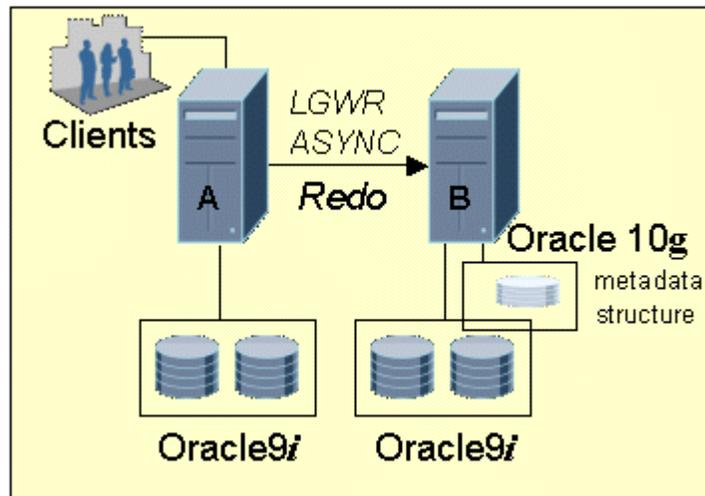

Figure 1 – Instantiation of the standby database and metadata structure
Step 2: The “shell” of an Oracle 10g database is created on the standby system using the same metadata structure as the primary database but with no data. (Figure 1).